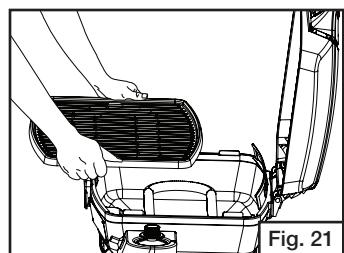

Fig. 21
- Place grill grate over the burner. (Fig. 21)